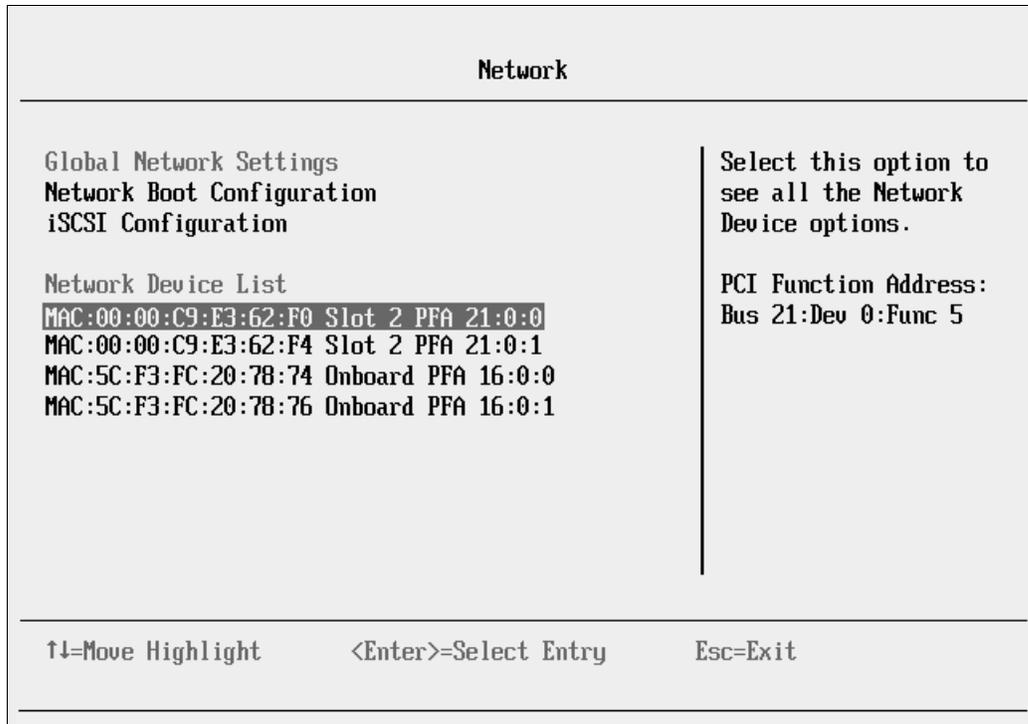

Figure 10-93 Network panel
5. In the Network panel (Figure 10-93), select a port on the Emulex adapter.